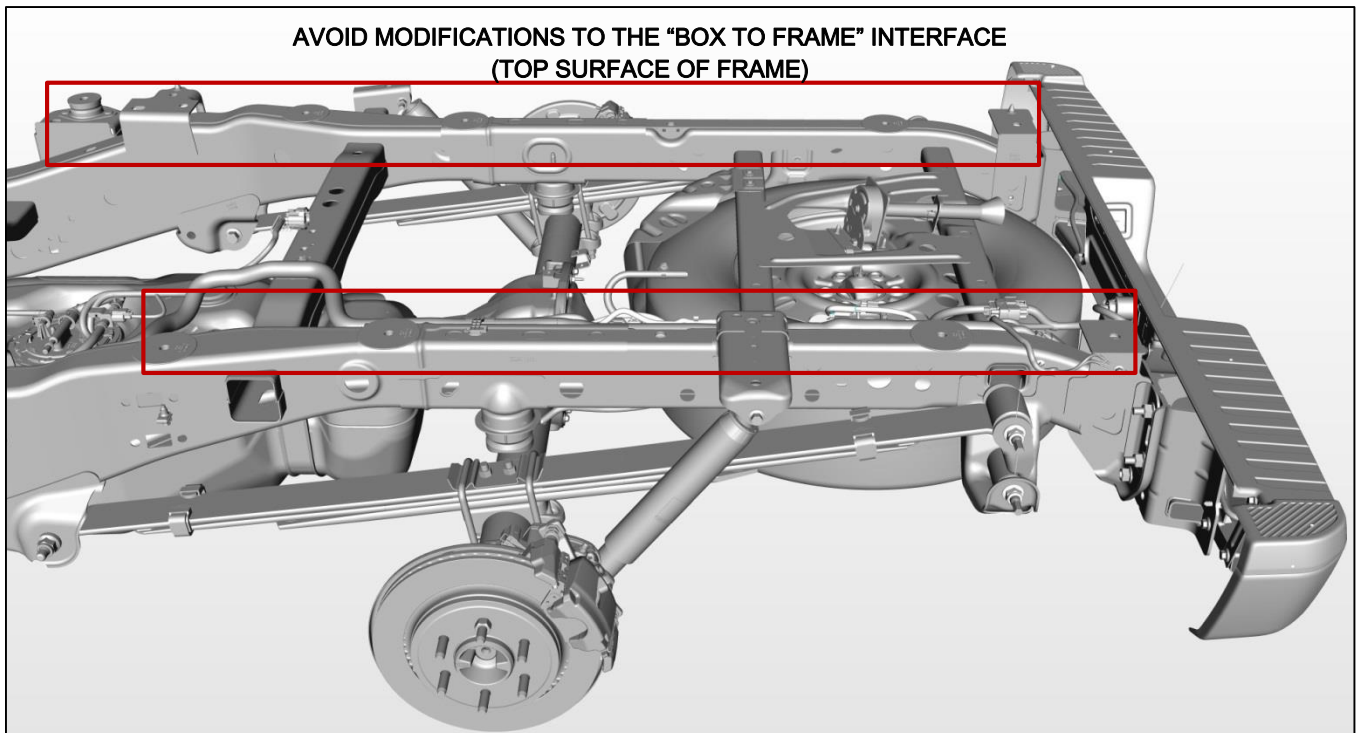

Figure 4: Rear Frame Section (F150 shown Super Duty similar)
Repairs or modifications that disrupt the “box to frame” or “cab to frame” interface are not permitted. (Figure 4)
- ✗ Do not ground on the attachment points between the box and the frame. (Figure 4)